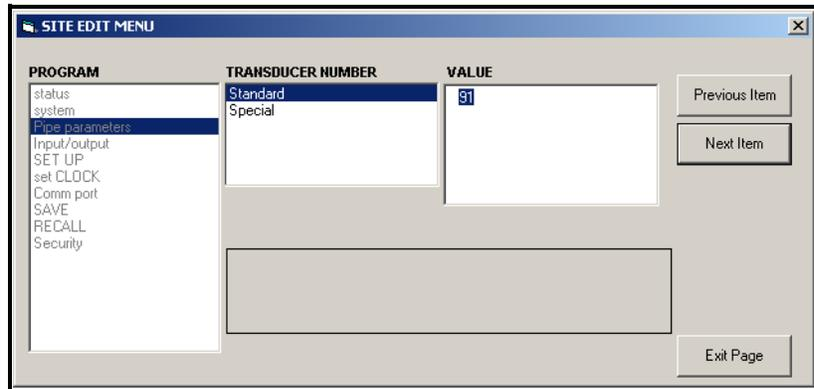

Figure C-21: Pipe Parameters Option in Site Edit Menu
- a. Highlight and double-click on the desired option in the left pane. Figure C-21 below shows the first entry (Transducer Number) in the Pipe parameters option. The title above the center pane lists the current entry, while the center pane displays the available selections for that entry.